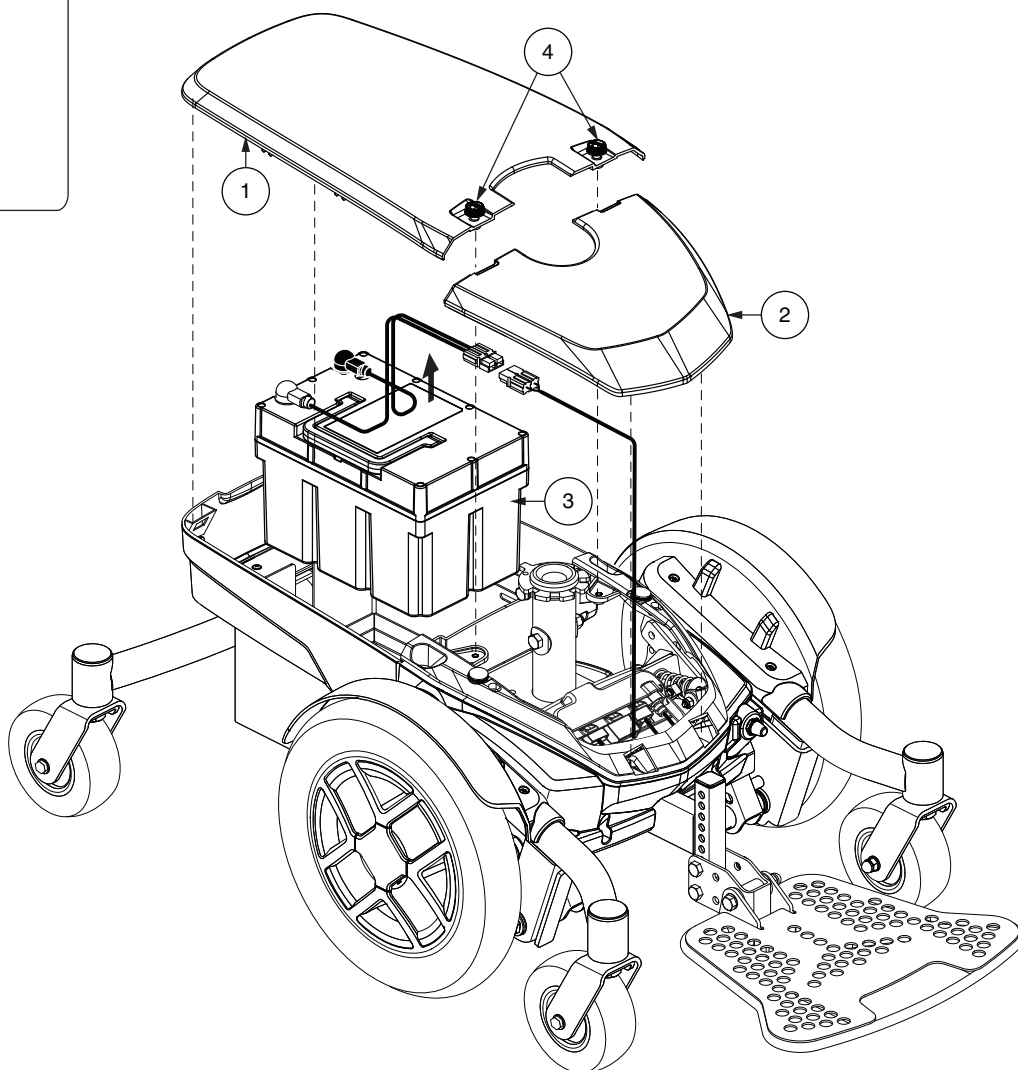

Figure 20. Lithium Battery Installation (Seat Removed for Clarity)
5. If equipped with two (2) SLA batteries, disconnect the rear battery harness from the power base and remove the battery. Slide the front battery rearward, disconnect the front battery harness from the power base, and remove the front battery. See figure 19. If equipped with a lithium battery, disconnect the battery harnesses and remove the battery. See figure 20.
8. For installation of a new lithium battery, place the battery into the power base. Make sure that the terminals are facing the rear of the power base. See figure 20. Connect the rear battery harness to the power base.